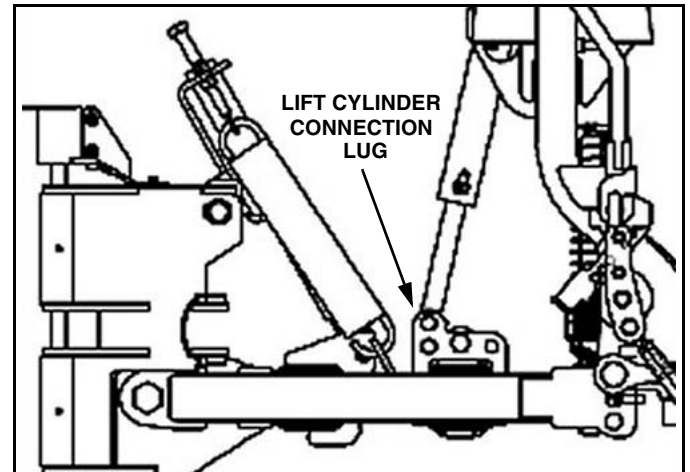

Figure 1-18
- 13. The lift cylinder lower mounting bracket must be assembled to provide a higher connection point for the cylinder to the A-frame when the top lug hole is used. (See Figure 1-18).